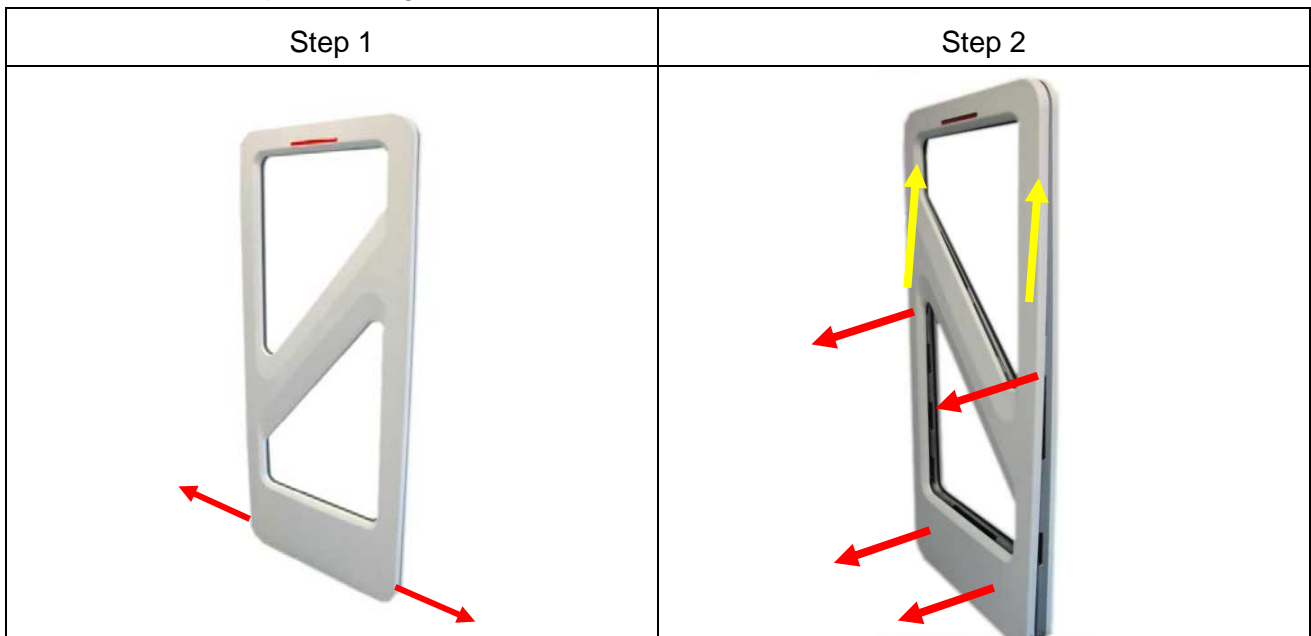

Fig. 3: Opening the antenna base
2. After that the antenna has to be placed carefully again on the floor. Now you must remove the two fastening screws (hexagon socket width A/F2,5) of the antenna cover at the antenna foot and remove it upwards. Fig. 3